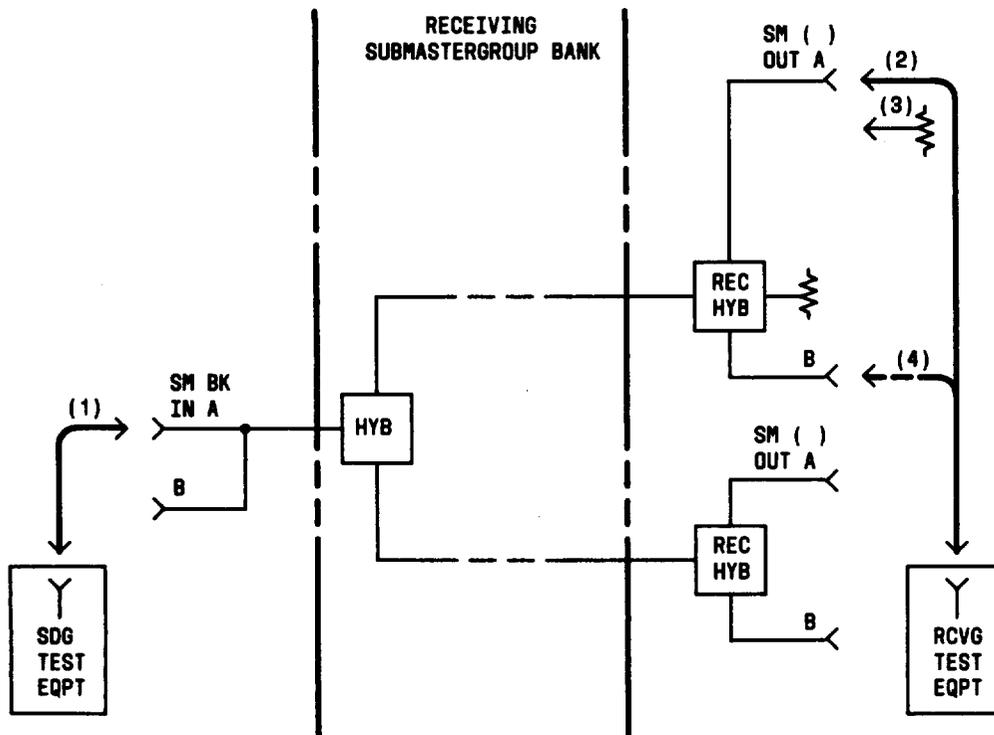

Fig. 3—Receiving Submastergroup Bank Testing Arrangement
5	Connect the STE to the SM BK IN A jack [patch (1), Fig. 3].
6	Connect the RTE to the SM( ) OUT A jack [patch (2), Fig. 3].  Note: Parentheses indicates 1 or 2, according to the submastergroup under test.
7	♦Insert a 75-ohm 368A plug into the SM( ) OUT B jack for the submastergroup under test [patch (3), Fig. 3].♦
22	Disconnect the RTE from the SM( ) OUT A jack [patch (2), Fig. 3].
25	Connect the RTE to the SM( ) OUT B jack [patch (4), Fig. 3].
27	Disconnect the RTE from the SM( ) OUT B jack [patch (4), Fig. 3].